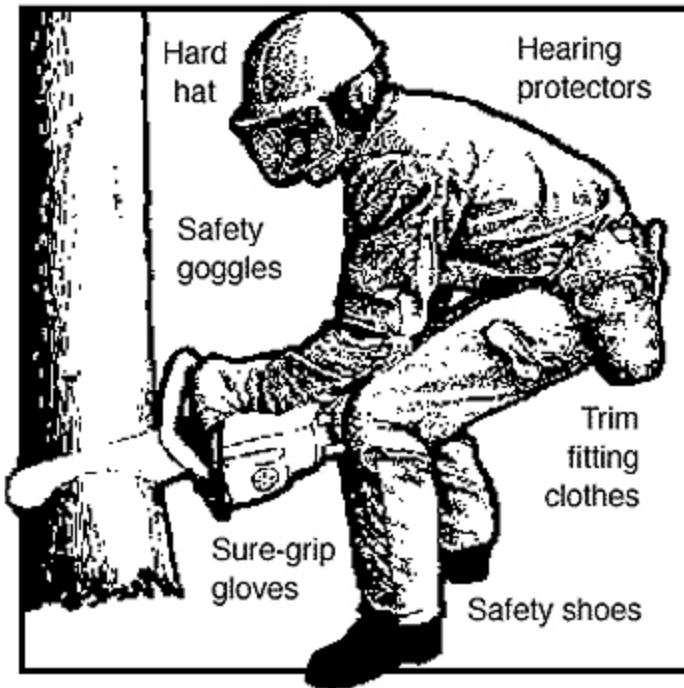

Figure 3
- Clothing should be well-fitted and free of dangling or ragged edges that could become entangled in either the saw or brush (Figure 3).